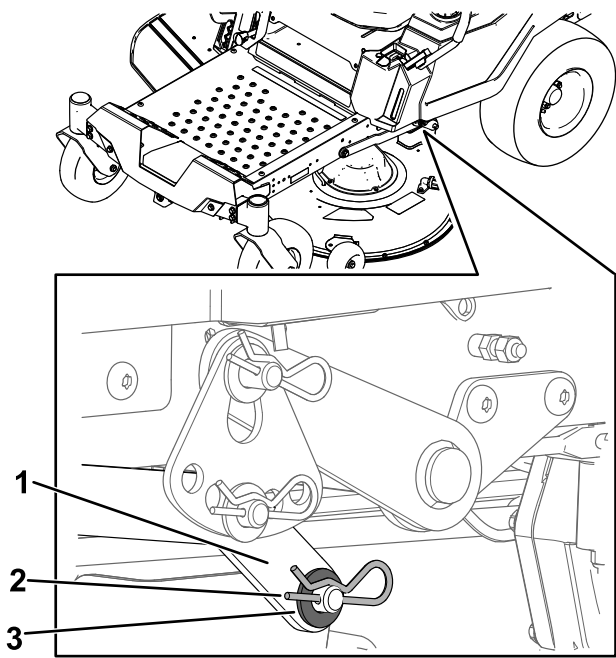

Figure 70
6. On 1 side of the machine, remove the washer and hairpin cotter from the deck pin (Figure 70).
7. Remove the lift arm from the deck pin (Figure 70).
5. On 1 side of the machine, lift the rear of the mower deck and install the lift arm to the deck pin (Figure 70).
6. Install the lift arm using the washer and hairpin cotter (Figure 70).